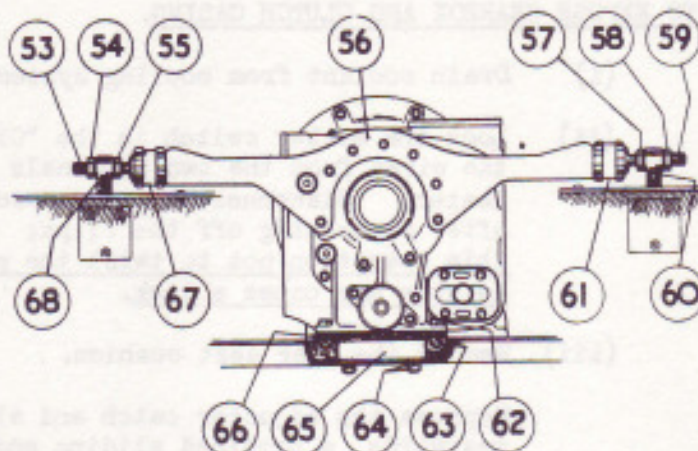

FIG. 3. ENGINE AND GEARBOX REAR SUPPORT.
- (vi) Slacken back the inner nuts (55 and 57, Fig. 3), and remove torque reaction rubbers (61 and 67) from their retaining cups; then remove the torque bracket (56) from the rear of the gearbox by removing the seven nuts and spring washers.
- (vii) Remove the two nuts and spring washers (63), then remove bolts (62), fitted to the bottom and outermost holes in the gearbox rear end cover and support. Do not remove the nuts (64).
- (xvi) Remove the two bolts from both ends of the gearbox support member which attach it to the frame cruciform. Then, remove support member taking care not to lose metal packing piece or pieces (66, Fig.3).